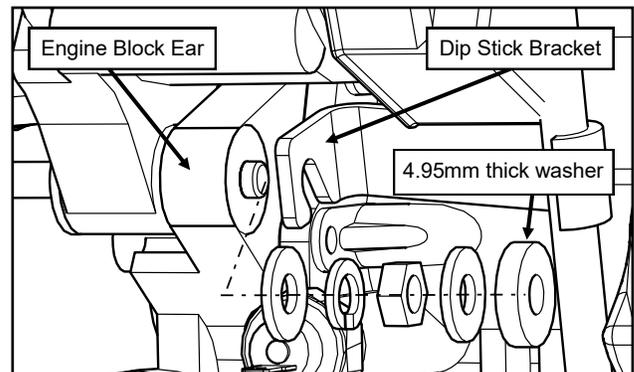

Fig. 2.5 (Alternator to Engine Block Hardware)
\*Note: These (5) items (shown lined up in Fig. 2.5) go between the alternator mounting ear of the engine block and the dip stick tube bracket in the order shown.